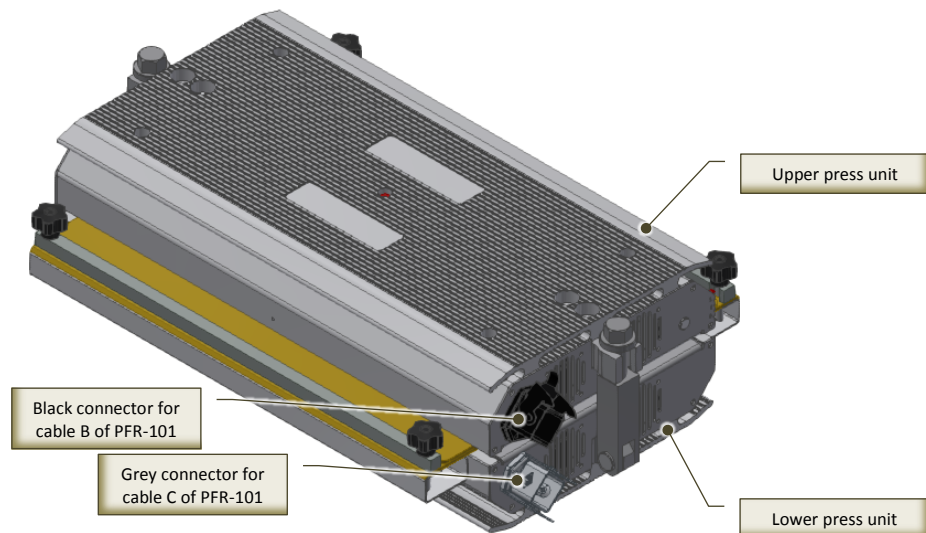

Fig. 6-5 – Press connectors
- The cable "B" of the PFR-101 regulator unit must be connected to the black connector of the upper plate of the press (Fig. 6-5);
- The cable "C" of the PFR-101 regulator unit must be connected to the gray connector of the lower plate of the press (Fig. 6-5).
ATTENTION !: Before supplying power to the machine, make sure that the Press-Control Unit connection cables are correctly connected and correspond to the upper and lower plate assignment (Fig. 6-5).